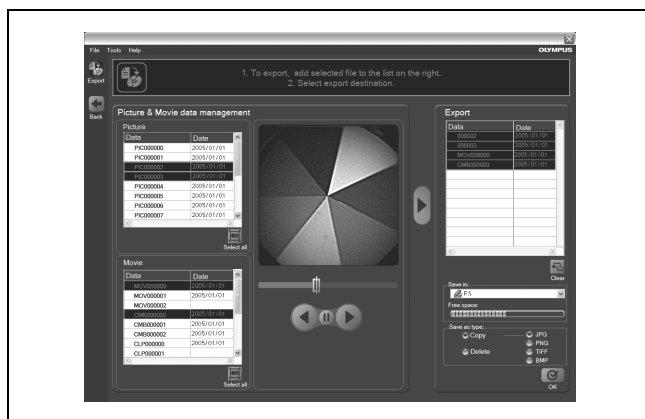

Figure 6.116
3. Select the picture and/or movie files you wish to export (see Figure 6.116).